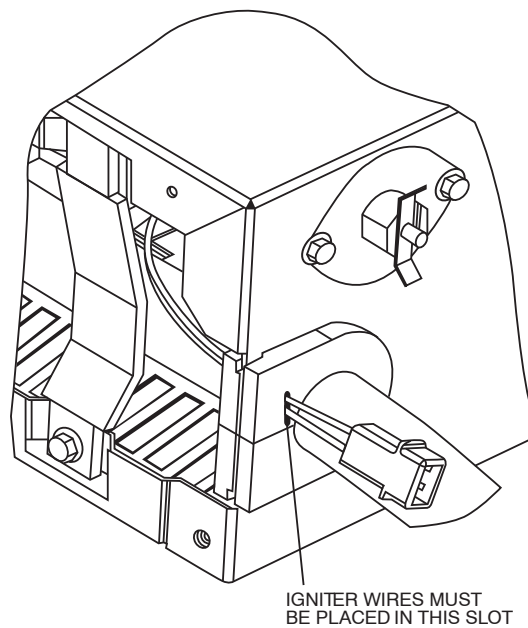

Fig. 5 - Igniter Wire Placement
14. Reinsert igniter wires in the slot in manifold grommet, dressing the wires to ensure there is no tension on the igniter itself. (See Fig. 5.)
- t. Reinsert igniter wires in slot in manifold grommet, dressing the wires to ensure there is no tension on the igniter itself. (See Fig. 5.)